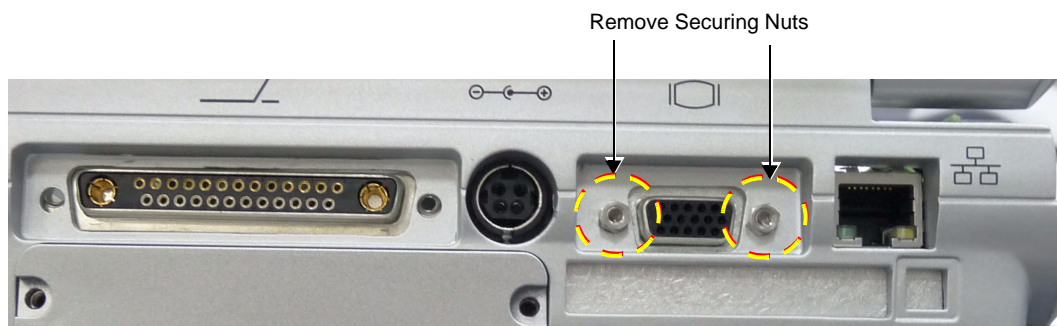

Figure 8-45 Vivid i n/ Vivid q N Scanner - Rear View
- 5.) Loosen and remove the two securing nuts (one on each side of the VGA Connector, located on the Vivid i n/ Vivid q N rear panel), as shown Figure 8-45.
- 4.) Return and fasten the two securing nuts previously removed (one on each side of the VGA Connector, located on the Vivid i n/ Vivid q N rear panel), as shown Figure 8-45.